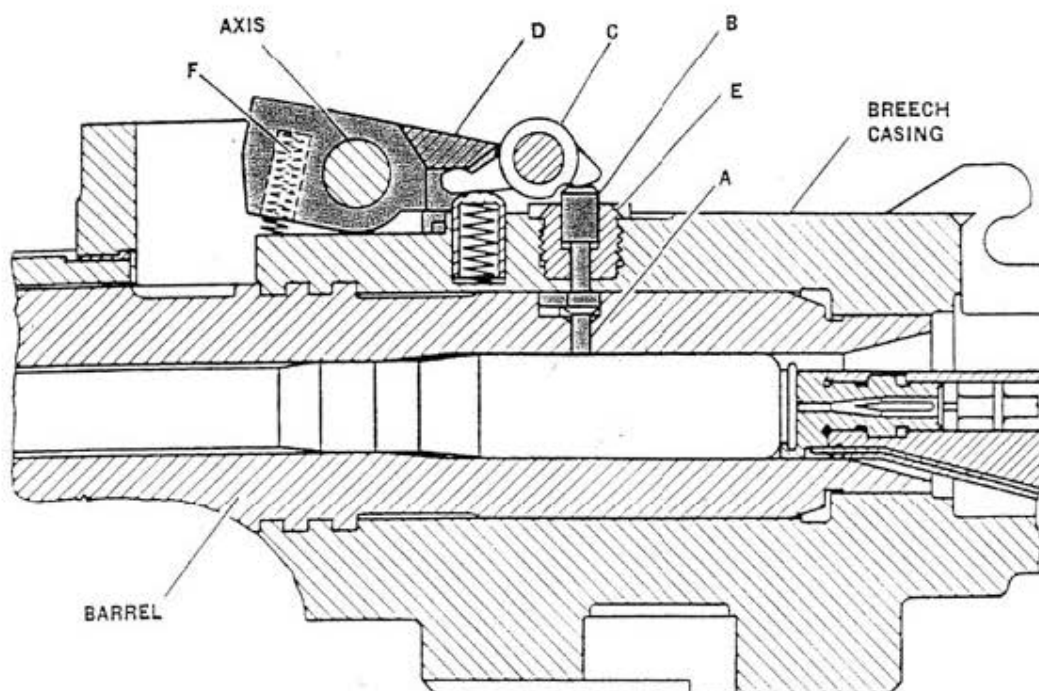
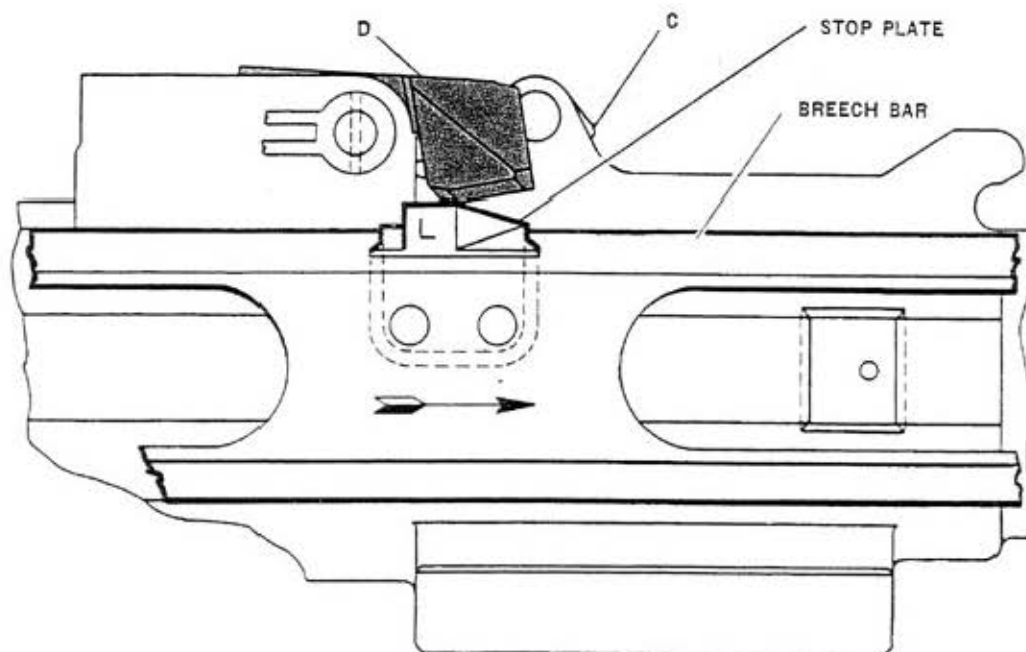
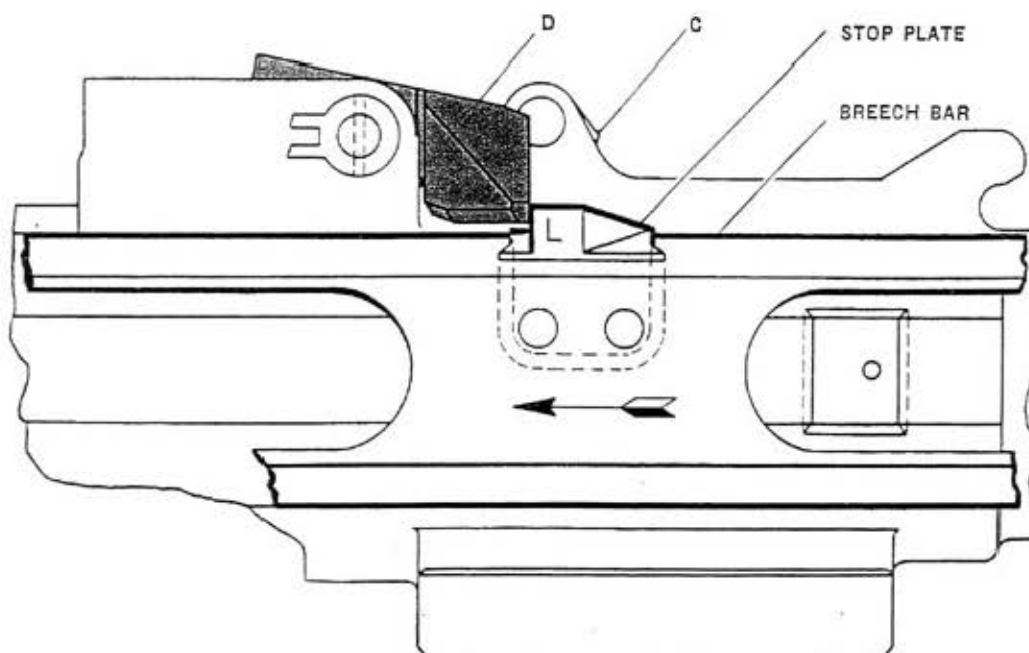

Figure 21—Double Loading Stop Gear. Gun has fired and cartridge is in firing chamber
Figure 22—Double Loading Stop Gear. Part of cartridge shell left in chamber as recoil takes place
Figure 23—Double Loading Stop Gear. Counterrecoil is arrested by the stop plate bearing against the double loading stop
The position of these parts when a cartridge is in the firing chamber is shown in Figure 21. The front end of the double loading stop (D) is raised by spring (F) and the rear end has fallen until it is in the path of the stop plates mounted one on each breech bar.
NOTE—The positions of the lower plunger (A), upper plunger (B) and lever (C) remain the same in Figures 21, 22 and 23. The cartridge case is assumed to have ripped apart in Figures 21 and 22 with the part remaining, still holding lower plunger (A) flush against the firing chamber wall. The double loading stop (D) remains free to rotate, to a limited extent.
The left breech bar is shown, see Figure 22, recoiling to the rear carrying with it the stop plate marked "L". (On the right breech bar the stop plate is marked "R".) The rear end of the stop plates is sloped to lift the double loading stop (D), Figure 22, against the pressure of its springs. The springs assert themselves after the hardened stop plates have passed the double loading stop. See Figure 21. Faces on the rear end of the double loading stop (D) then intercept the hardened stop plates on the breech bars as the breech bars counterrecoil and thereby hold the entire recoiling mass to the rear as shown in Figure 23.
When the gun is operating normally the fired cartridge case is ejected before the breech bars have recoiled far enough to reach the double loading stop (D), Figures 22 and 20. When ejection of the fired cartridge case occurs, the double loading stop lower plunger (A) is no longer held outward by the cartridge case and the whole system is then returned to its inward position by the spring under the double loading stop lever (C).